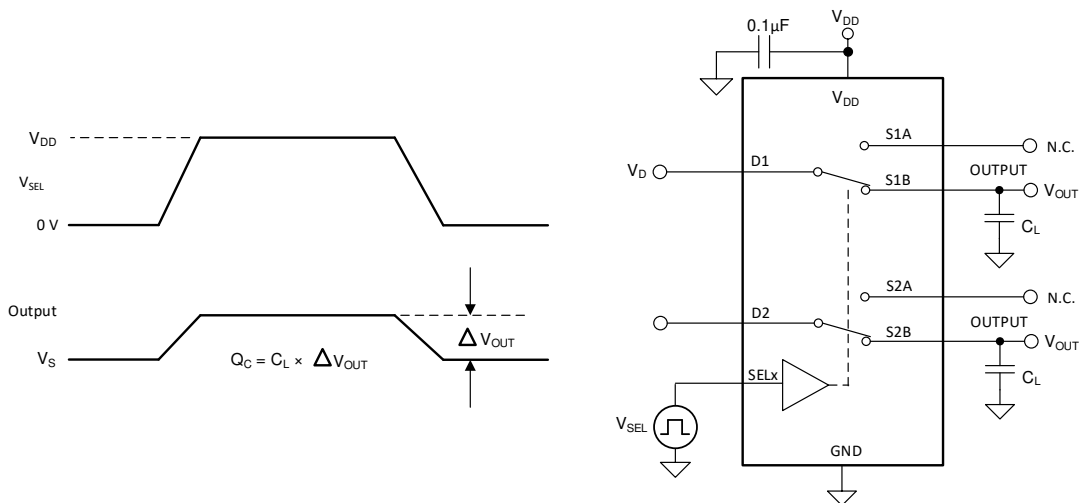

Figure 6-6. Charge-Injection Measurement Setup
The TMUX1136 has a transmission-gate topology. Any mismatch in capacitance between the NMOS and PMOS transistors results in a charge injected into the drain or source during the falling or rising edge of the gate signal. The amount of charge injected into the source or drain of the device is known as charge injection, and is denoted by the symbol  $Q_C$ . Figure 6-6 shows the setup used to measure charge injection from Drain (D) to Source (Sx).